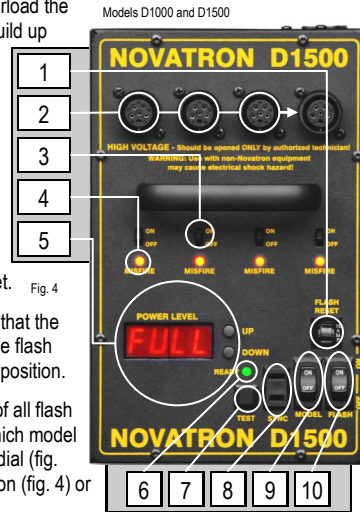
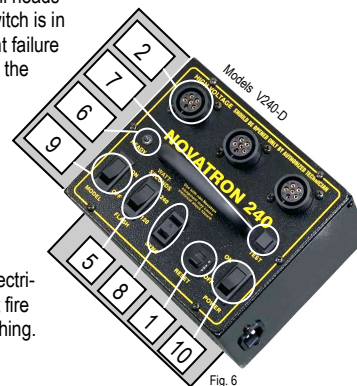

Fig. 4
Fig. 6
1. **RESET CIRCUIT-BREAKER**— The circuit breaker protects the charging circuit of the power pack in case of malfunction. Rapid firing or continual firing of the pack over an extended period may overload the transformer and trip the circuit breaker. This is caused by excessive heat build up within the transformer and associated circuits. If the circuit breaker trips, wait one (1) minute before resetting and continuing. If it trips repeatedly, return the power pack to Novatron for service.
5. **FLASH POWER CONTROL**—This control will evenly control the output of all flash heads attached to the power pack. Depending on which model power pack you have the control will either be a dial (fig. 5), an LCD readout with an up and down button (fig. 4) or a switch (fig. 6).